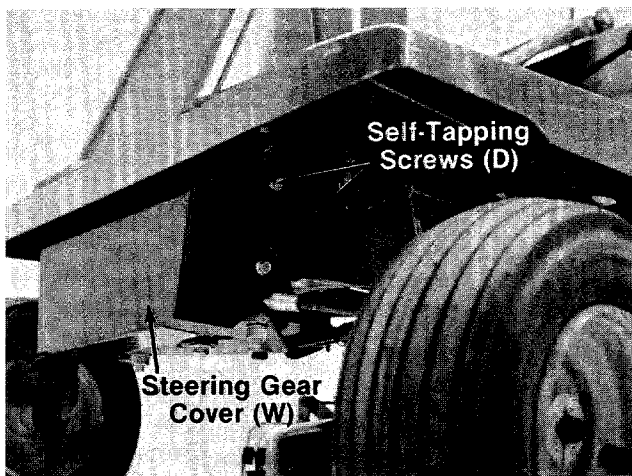

FIGURE 9.
15. Install the **steering gear cover (W)** as shown in figure 9, to cover the underside of the steering mechanism. Secure with two **self-tapping screws (D)** on each side of the cover. Do not completely tighten any of these screws until all four of them are positioned correctly.
16. Press **steering wheel cap (F)** in place in the center of the **steering wheel**.